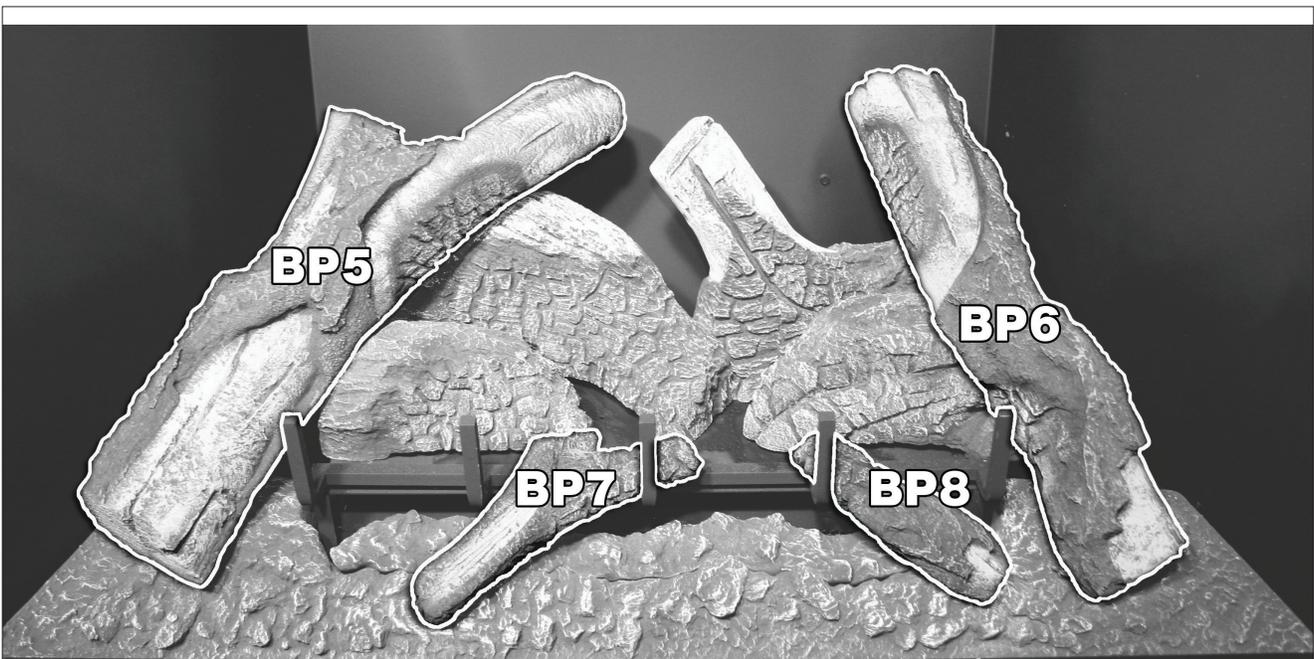

Figure 8.3, Installed Log Set
4. Align logs BP7 and BP8 as shown in Figure 8.3.